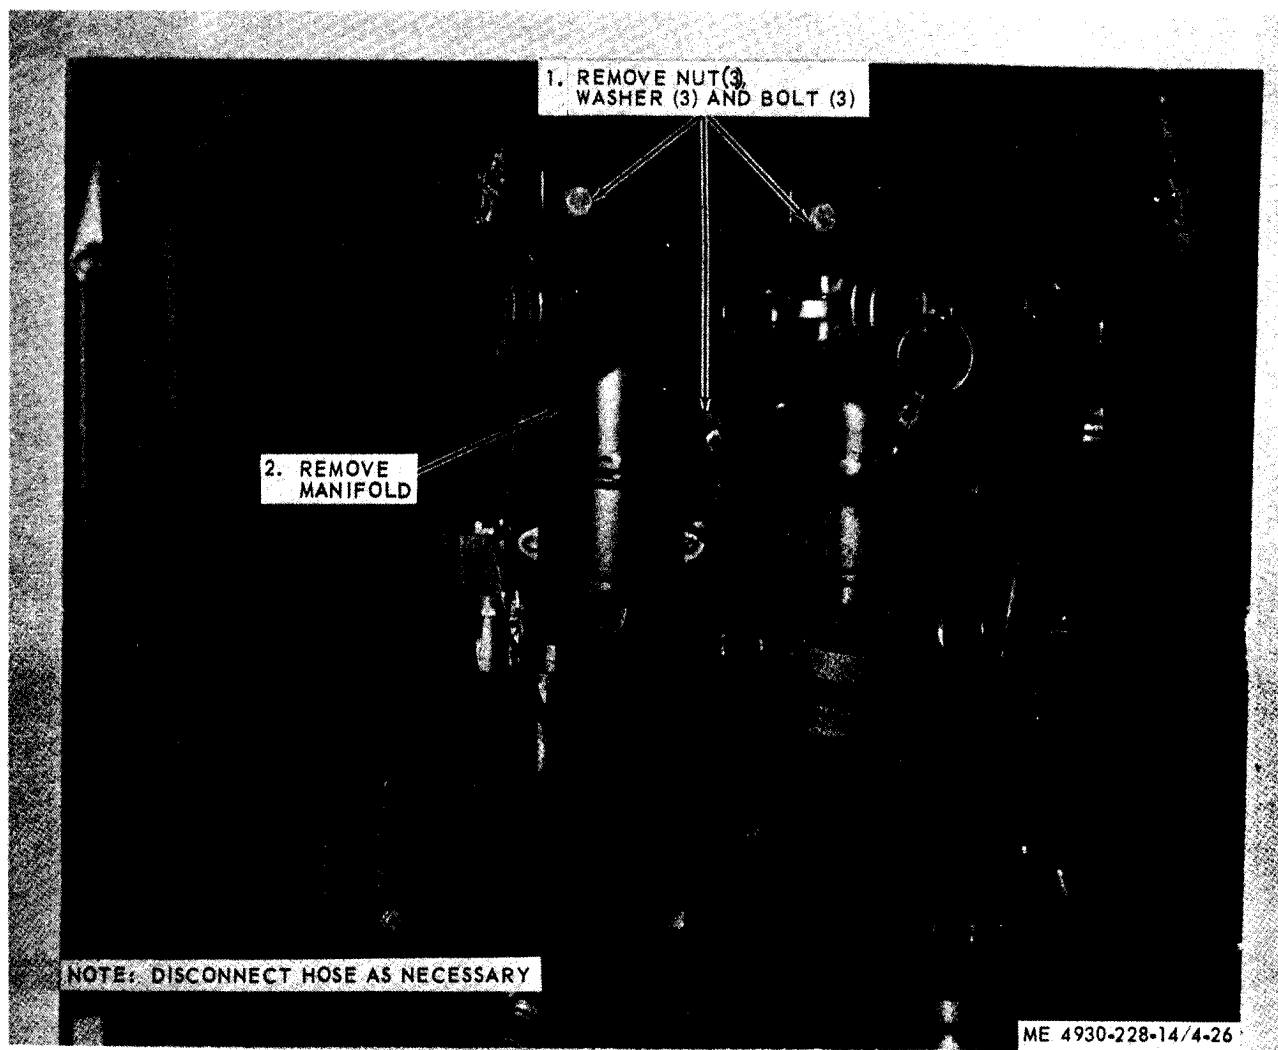

Figure 4-26 Manifold, removal.
a. Removal. Refer to figure 4-26 and remove the manifold.
- (1) Clean and dry the manifold thoroughly.
- (2) Inspect the manifold for cracks, breaks, distortion, defective threads, and for other damage.
- (3) Inspect for worn or broken gasket.
- (4) Replace defective parts.
c. Installation. Refer to figure 4-26 and install the manifold in reverse order of removal.